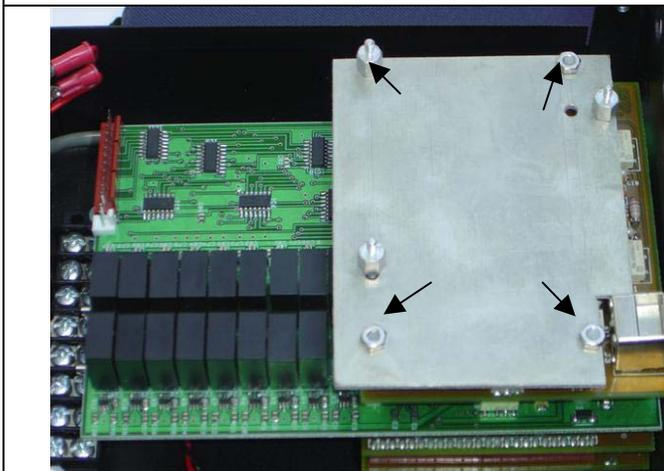

Figure 8 – Transverter mounting plate installation
6. Install the mounting plate on the four spacers previously mounted on the BPF board as shown in Figure 8.
7. Screw a 1/4 inch aluminum spacer into the location noted in Figure 8.